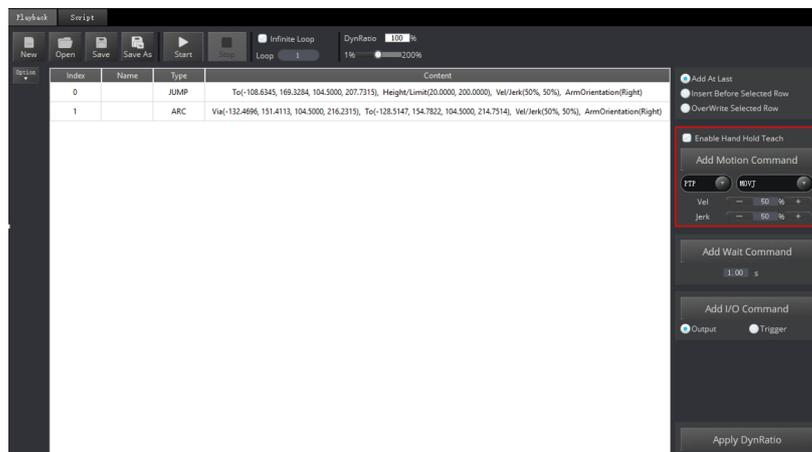

Figure 6.5 Choose motion mode
**Step 4** Select **PTP > JUMP** on the **Playback** page, as shown in Figure 6.5. The constraints in JUMP mode are as shown in 6.1.4 *Saving point in JUMP Mode*.